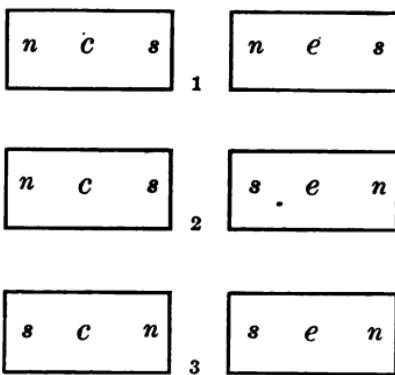

FIG. 198
306. Laws of Attraction and Repulsion.—Take two flat permanent magnets, *c* and *e*, and place them end to end as in (1) (Fig. 198); suppose they *attract* each other. Now turn *e* so that its other pole is toward the same pole of *c*, as in (2); the magnets do not now